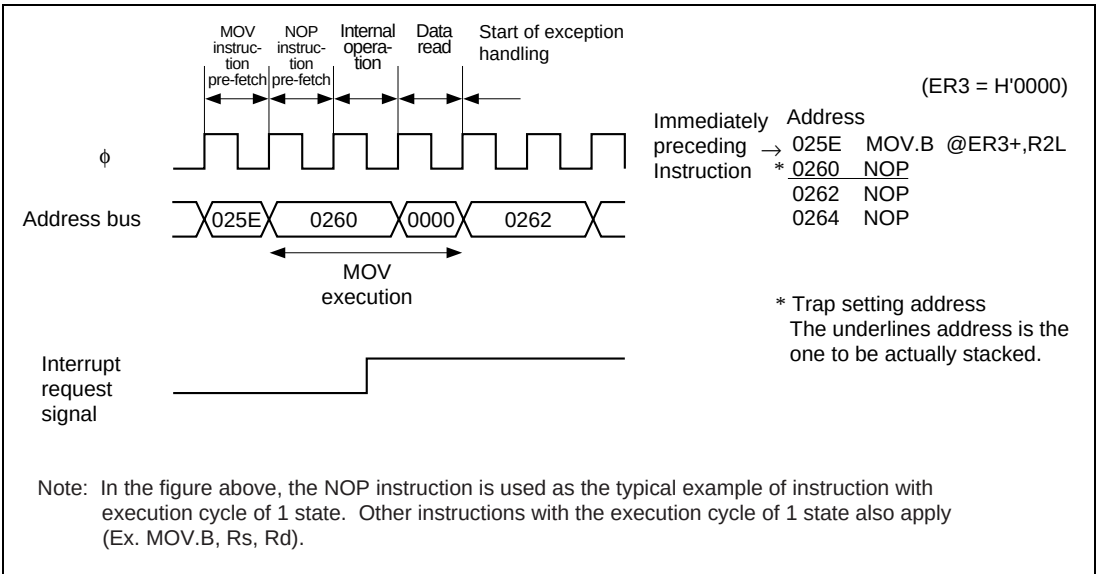

Figure 25.2 Basic Operations (1)
If the instruction to trap immediately follows the branch instruction or the conditional branch instruction, operation may differ, depending on whether the condition was satisfied or not, or the address to be stacked may be located at the branch. Figures 25.2 to 25.22 show specific operations.
- Figure 25.2 shows the operation when the instruction immediately preceding the trap address is that of 3 states or more of the execution cycle and the next instruction prefetch occurs in the state before the last 2 states. The address to be stacked is 0260.